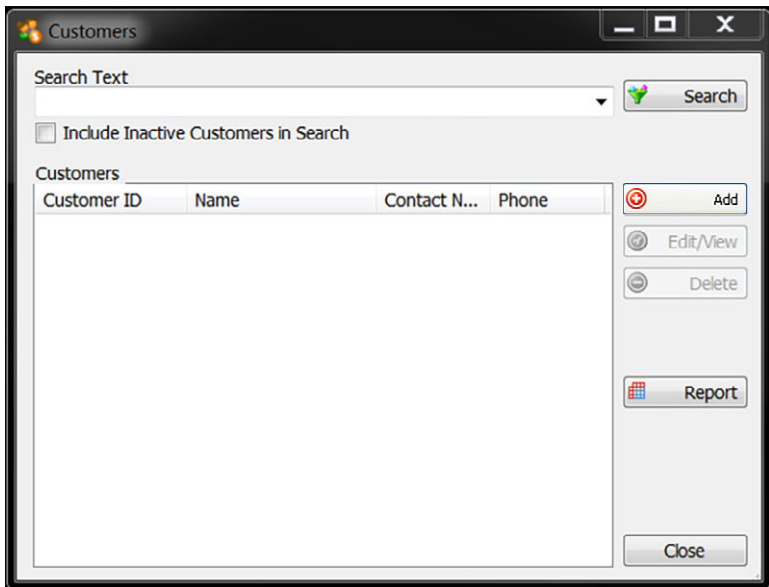

Figure 4-2. Customer Dialog Box
When making a selection from the View menu (excluding Users), a dialog box similar to that shown in Figure 4-2 will appear. To quickly locate an item, it is recommended to use the Search function. To do so, in the Search Text text box, type a keyword matching the item to retrieve and press the Search button. This will display only items matching the keyword. To view all items (e.g., all customers), leave the Search Text text box blank and press the Search button. Doing so may be a time-consuming operation the database is large.
1. While logged in as an administrator, from the View menu or the tool bar, select **Jobs**. The Select Job dialog box appears and offers the same features as the Select Customer dialog box shown in Figure 4-2 on page 25.